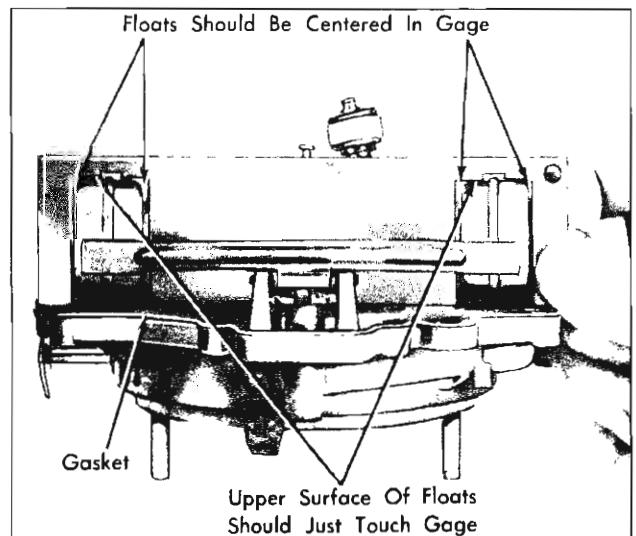

Fig. 44—Secondary Float Level Adjustment
C. Float Level Adjustment—Secondary Side (Figs. 44 and 45)
D. Float Alignment—Secondary Side (Fig. 44)